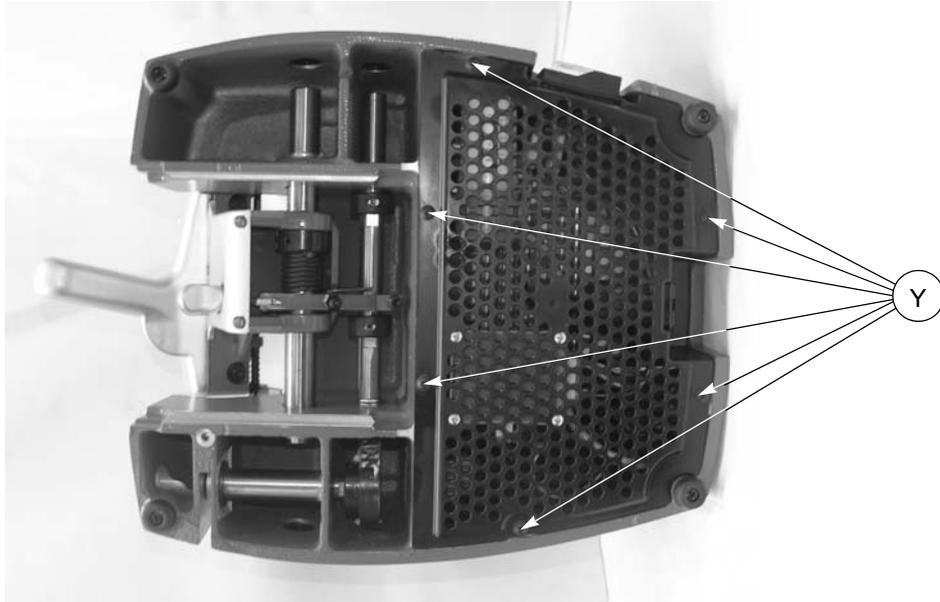

Fig. 27
- 6) Replace the bottom grate and secure with the screws (Y) (fig. 27).
- 10) Replace the bottom grate and secure with the screws (Y) (fig. 27).
- 13) Replace the protective pads (Q).
- 6) Replace the bottom grate and secure with the screws (Y) (fig.27, page 24).
- 1) Remove the two protective pads (Q).
- 2) Loosen the 3 screws (M1) and remove the top cover (M).
- 5) Replace the bottom grate and secure with the screws (Y) (fig. 27).